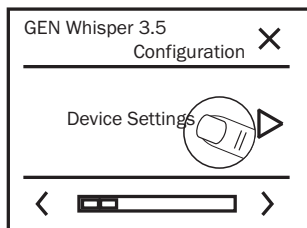

Figure 8
- 4 Figure 8: Touch the “Device Settings” field to open the device settings menu.